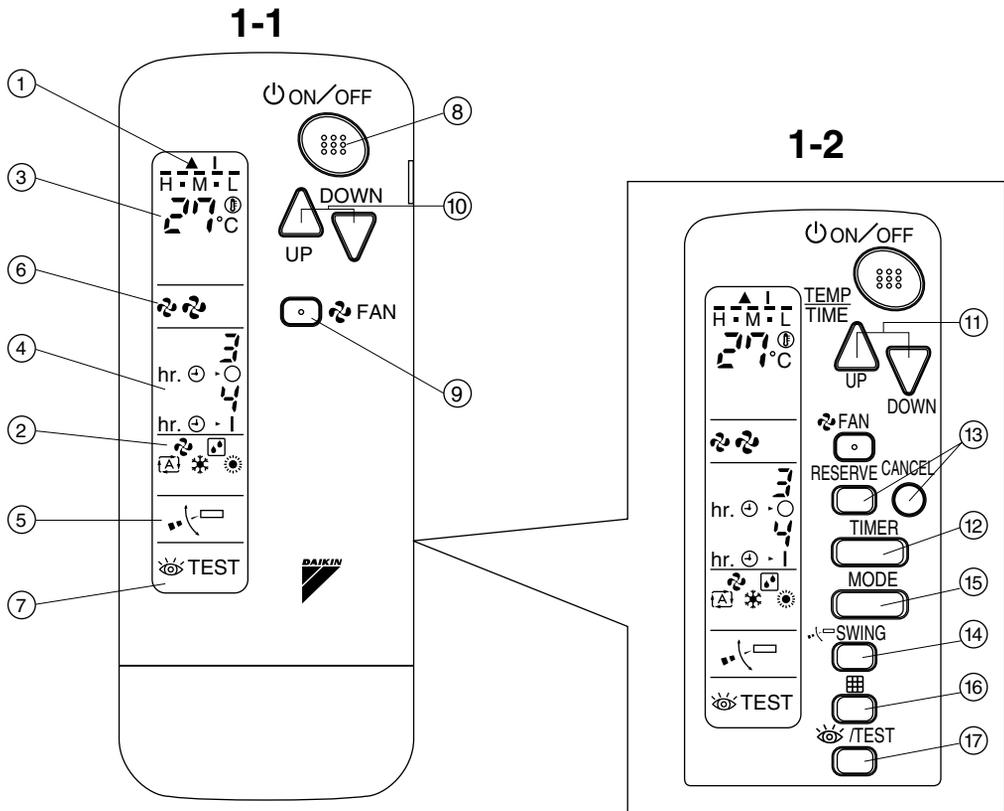

Fig. 1
2. NAMES AND FUNCTIONS OF THE OPERATING SECTION (Fig. 1, 2)
NOTE  <ul style="list-style-type: none"> • For the sake of explanation, all indications are shown on the display in Figure 1 contrary to actual running situations. • Fig. 1-2 shows the remote controller with the front cover opened. • If the air filter cleaning time indicator lamp lights up, clean the air filter as explained in the operation manual provided with the indoor unit. After cleaning and reinstalling the air filter, press the filter sign reset button on the remote controller. The air filter cleaning time indicator lamp on the receiver will go out. • The Defrost Lamp will flash when the power is turned on. This is not a malfunction.